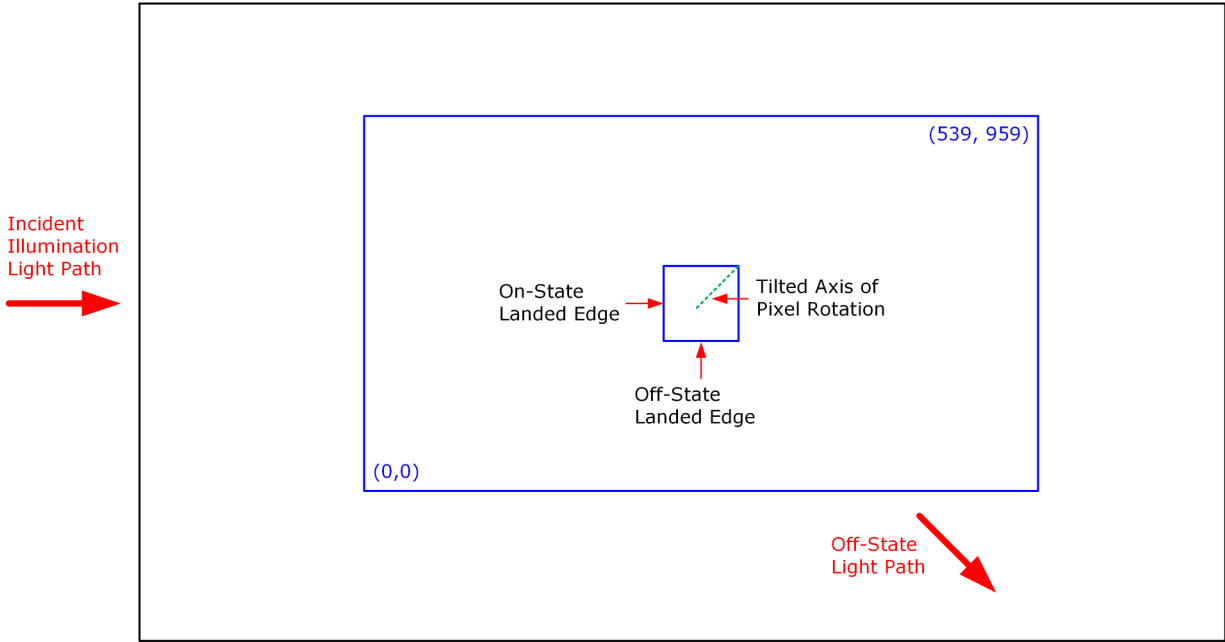

Figure 7-17. Landed Pixel Orientation and Tilt
- (1) Measured relative to the plane formed by the overall micromirror array.
- (2) Additional variation exists between the micromirror array and the package datums.
- (3) Represents the landed tilt angle variation relative to the nominal landed tilt angle.
- (4) Represents the variation that can occur between any two individual micromirrors, located on the same device or located on different devices.
- (5) For some applications, it is critical to account for the micromirror tilt angle variation in the overall system optical design. With some system optical designs, the micromirror tilt angle variation within a device may result in perceivable non-uniformities in the light field reflected from the micromirror array. With some system optical designs, the micromirror tilt angle variation between devices may result in colorimetry variations, system efficiency variations or system contrast variations.
- (6) When the micromirror array is landed (not parked), the tilt direction of each individual micromirror is dictated by the binary contents of the CMOS memory cell associated with each individual micromirror. A binary value of 1 results in a micromirror landing in the ON state direction. A binary value of 0 results in a micromirror landing in the OFF state direction. See Figure 7-17.
- (7) Micromirror tilt direction is measured as in a typical polar coordinate system: Measuring counter-clockwise from a 0° reference which is aligned with the +X Cartesian axis.
- (8) The time required for a micromirror to nominally transition from one landed state to the opposite landed state.
- (9) The minimum time between successive transitions of a micromirror
- (10) Conditions of Acceptance: All DMD image quality returns will be evaluated using the following projected image test conditions: